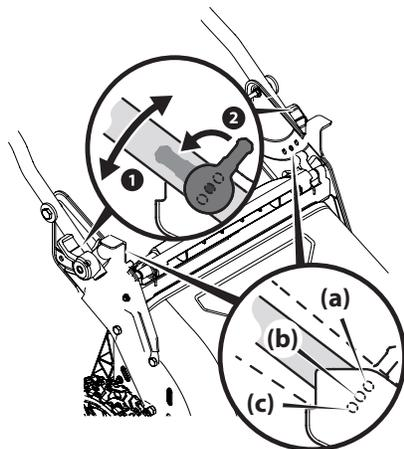

Figure 2
3. Place the handle into one of the three handle height positions, high (a), medium (b) or low (c), located on the handle brackets. See Figure 2.